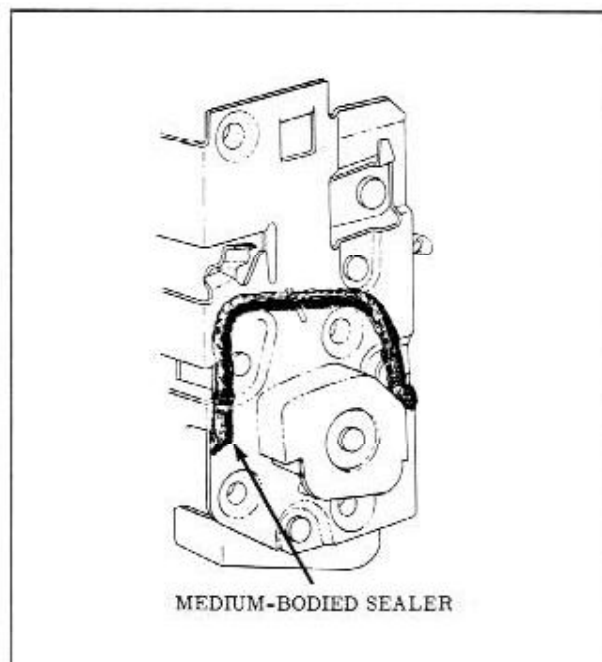

Fig. 17-31 Front Door Lock Assembly
5. To install, reverse removal procedure. Prior to installation of lock assembly on "11", "37", and "67" styles, apply a ribbon of medium-bodied sealer (approximately 1/4" in diameter) across face of lock frame. Check for proper operation, and where loosened, adjust glass run channel for proper alignment prior to installing inner panel water deflector. (Fig. 17-31)